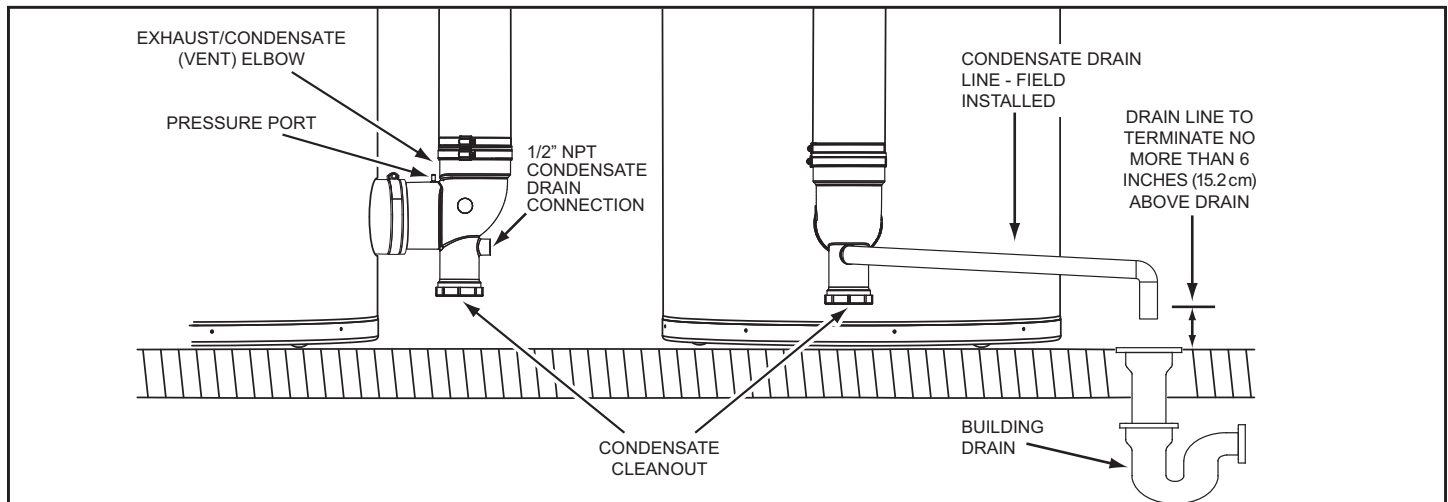

Figure 53. Condensate Drain Installation
2. Install a 1/2 inch PVC condensate drain line between condensate drain connection on the Exhaust/Condensate Elbow and a suitable building drain. The condensate line must slope to an open drain. See *Figure 53*.
3. Terminate the condensate drain piping with an elbow above the drain. Ensure that any discharge will exit the condensate drain line no more than 6 inches (15.2 cm) above a suitable building drain, or external to the building. See *Figure 53*.
4. Ensure the condensate drain line is not elevated above the condensate drain connection on the Exhaust/Condensate Elbow. See *Figure 53*.
Ensure all gas pipe is clean on the inside before installation. To trap any dirt or foreign material in the gas supply line a sediment trap must be installed as shown in Figure 53. The sediment trap must be readily accessible and not subject to freezing conditions. Install in accordance with the recommendations of the local gas utility company.
6. Install a sediment trap as shown in *Figure 53* (page 38).
7. Install a Main Gas Shutoff valve in the supply gas line as shown in *Figure 53* (page 38).
1. For test pressures exceeding 1/2 psi (3.45 kPa), disconnect the water heater and its Main Gas Shutoff Valve from the gas supply piping system during testing. See *Figure 53* (page 38). The gas supply line must be capped when disconnected from the water heater.